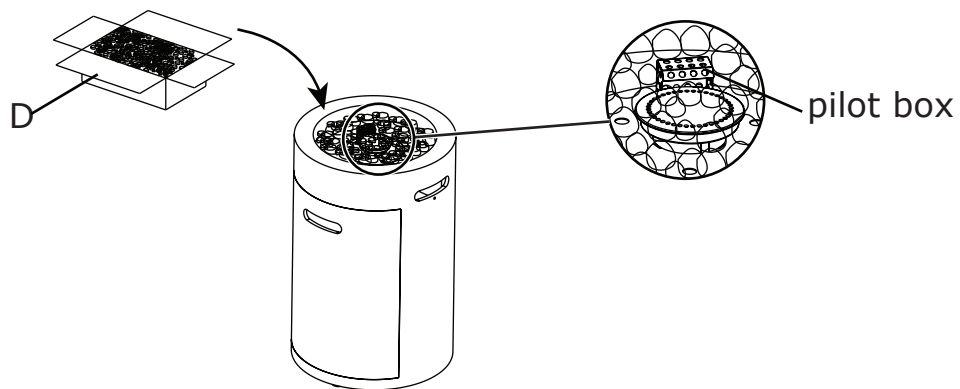

Figure 2
2. Open the box of lava rocks, put the lava rocks (D) into the fire bowl of the fire table (A), (See Figure 2). A gas fire pit requires 4.18 lbs lava rocks.